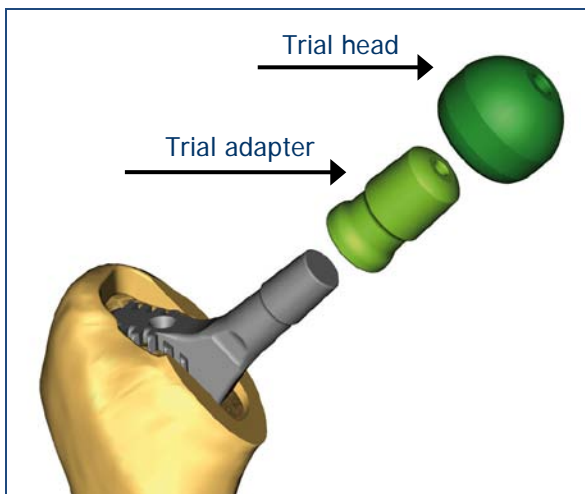

fig. 2: Mounting Trial Adapter System
- Selection of the trial head with the desired diameter and attachment on the trial adapter (fig. 2)